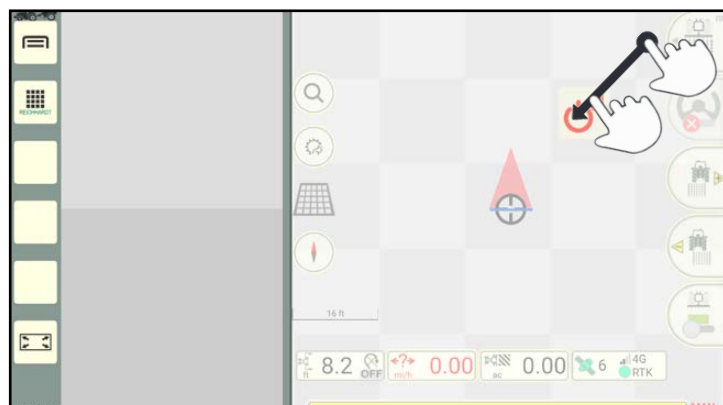

Fig. 94: Dragging the Delete/Exit button on to the application and terminating it
3. Drag the Delete/Exit button on to the window in which the application is being executed and let it go (see Fig. 94).